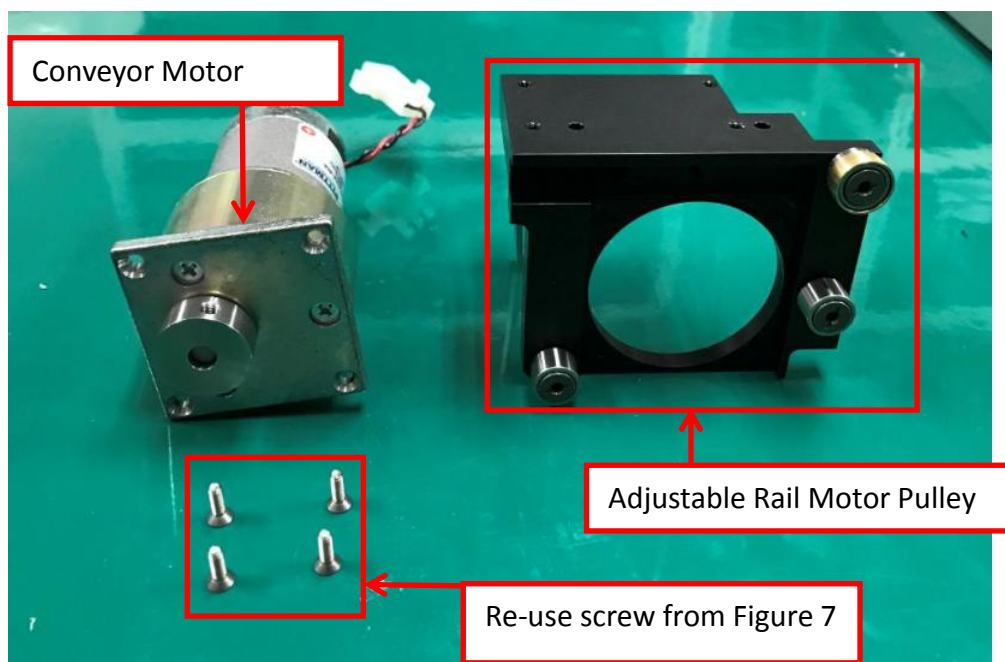

Figure 9 Conveyor Motor Assembly
2. Install Conveyor Motor to “Adjustable Rail Motor Pulley” as shown in Figure 9 & 10